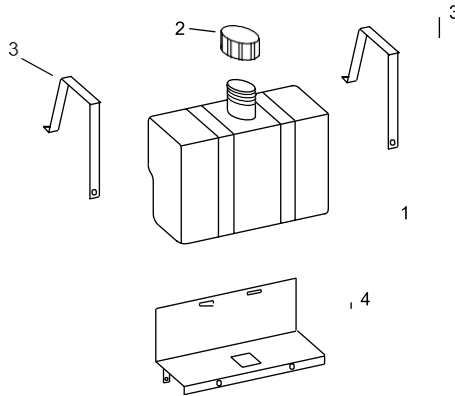

Fig. 2 - Fuel Tank Attachment
5. **See Figure 2.** Place tank straps "3" in the tank bracket "4" slots and bend tabs up and back against the bracket. Place the fuel tank in position and attach the straps at their lower end using two 6mm bolts.